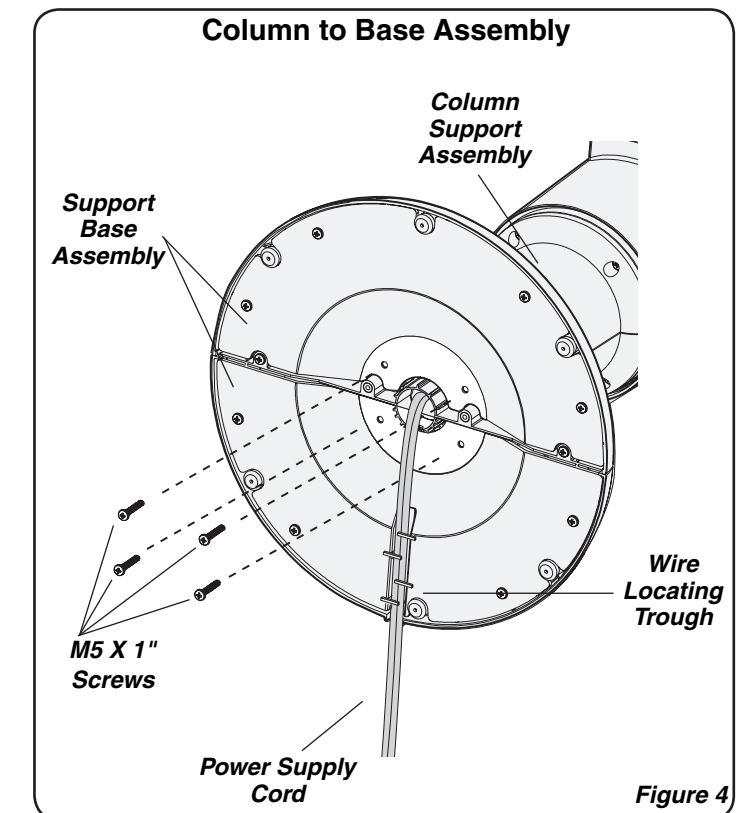

Figure 4
6. Align the **Support Base Assembly** with the **Column Support Assembly**, noting that the cord channel on the bottom of the support base should be towards the back of the Fan. Assemble the **Support Base Assembly** to the **Column Support Assembly** with (4) 1" Long **M5 Screws**. Gently pull any excess slack of the **Power Supply Cord** and place it in the **Wire Locating Trough**. (**Figure 4**)